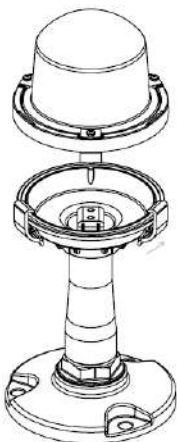

Figure 5-4
- Open the hinge in the direction indicated by the arrow, remove the optical cover holder and pull the lamp pin out of the ceramic wire holder (Figure 5-4).